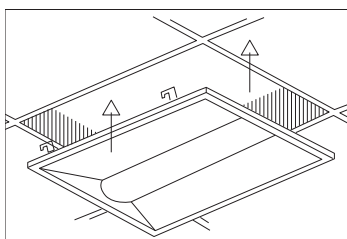

Figure 1
3. Before installing the LED Troffers in the ceiling, pull up the safety hooks on the back of the luminaire. (Figure 1)